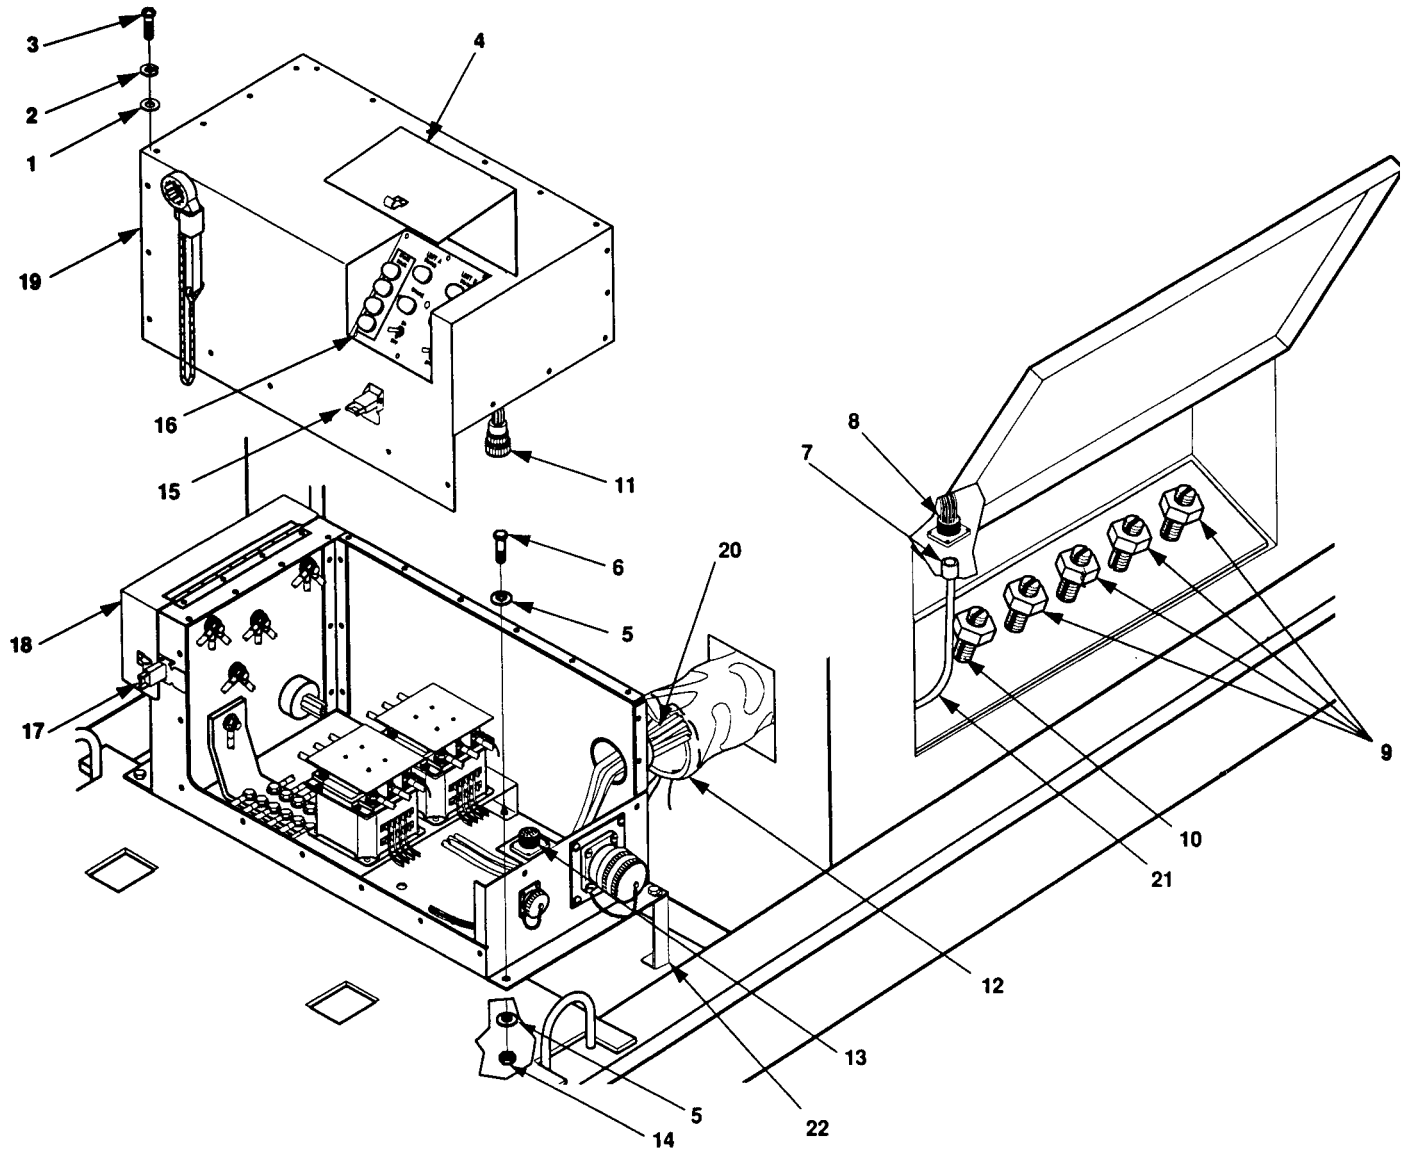

Figure 4-9. Switch Box Assembly Maintenance.
1. Remove four nuts (14, figure 4-9), flat washers (5), and screws (6) that secure switch box assembly.
2. Disconnect W1, W2, W3, and W4 horn the generator set load terminals (9).
3. Disconnect W5 from the generator set ground terminal (10).
4. Disconnect P1 (7) from J16 (8) of the generator set.